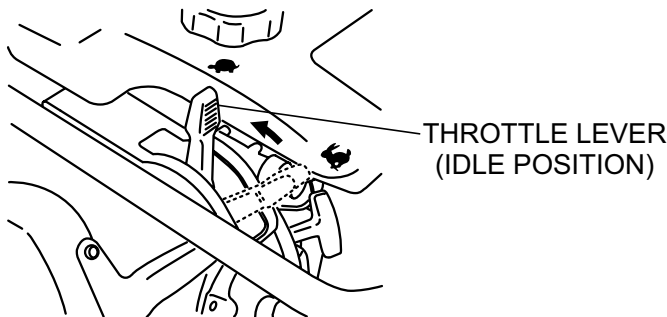
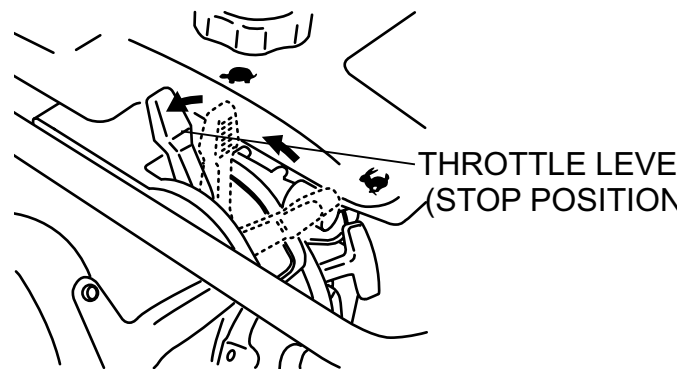

Figure 9. Throttle Lever (Idle Position)
Figure 15. Throttle Lever (Stop Position)
1. Slide the throttle lever from the stop to the idle position (←) (Figure 9). This opens the fuel cock and the engine electrical circuit is turned on automatically.
3. To stop the tamping action, move throttle lever quickly from the **START** (👉) position to the **IDLE** (👈) position (Figure 9).
1. Move throttle lever quickly from the **START** (👉) position to the **IDLE** (👈) position (Figure 9) and run the engine for three minutes at low speed. After the engine **cools**, move the throttle lever to the **STOP** position (Figure 15). The engine will stop and the fuel cock is automatically closed.